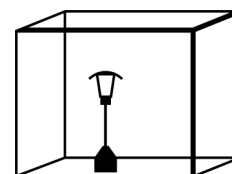

Fig. 2
- 3) The surface area is the sum of the walls surface. (See figure 2)